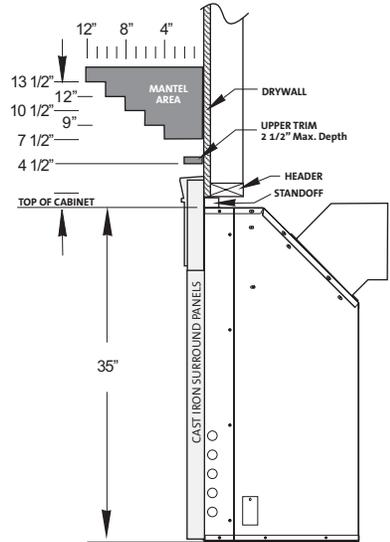

Figure 72. Minimum Mantel Clearances. Measure clearances from the top of the fireplace cabinet before installation of the cast iron surround panels.
- Minimum vent height above the roof or adjacent walls is specified by building codes. See figure 72.